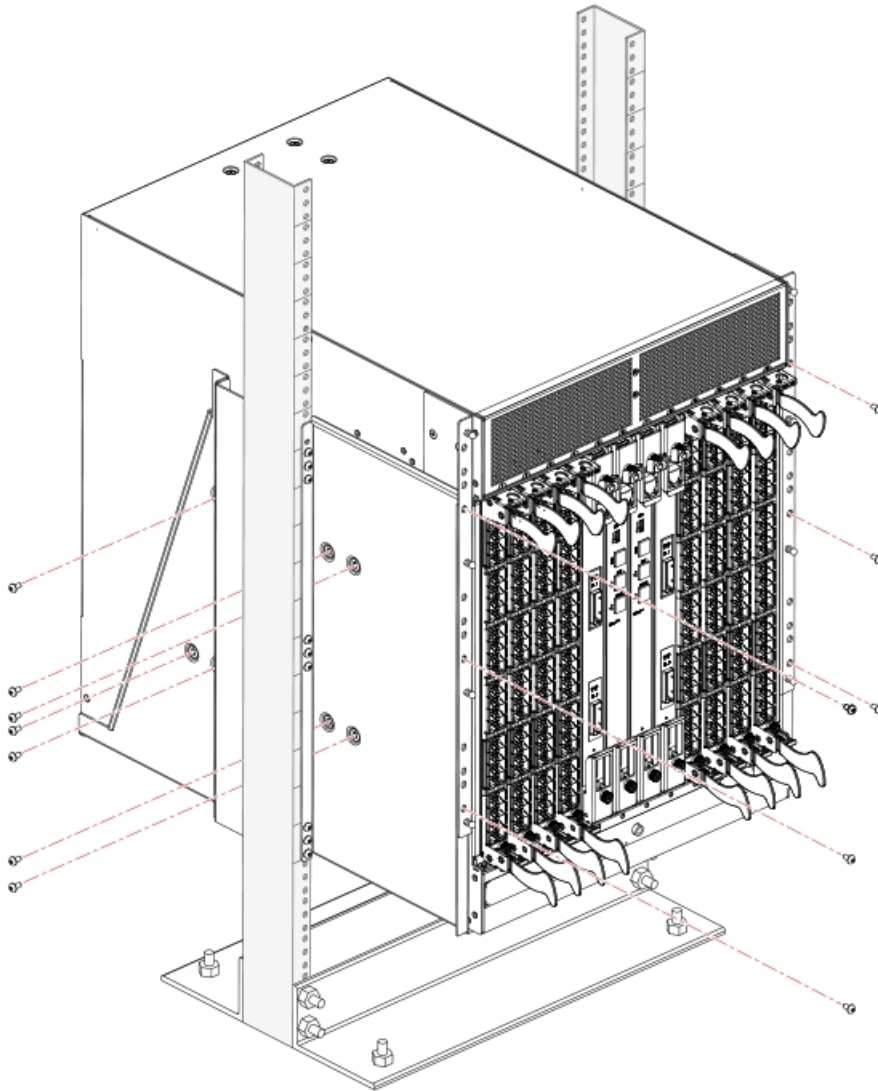

Figure 13. Attaching trays to the device
5. Use three screws (Item 5) to attach each side of the rear tray to the device (refer Figure 13 on page 31).